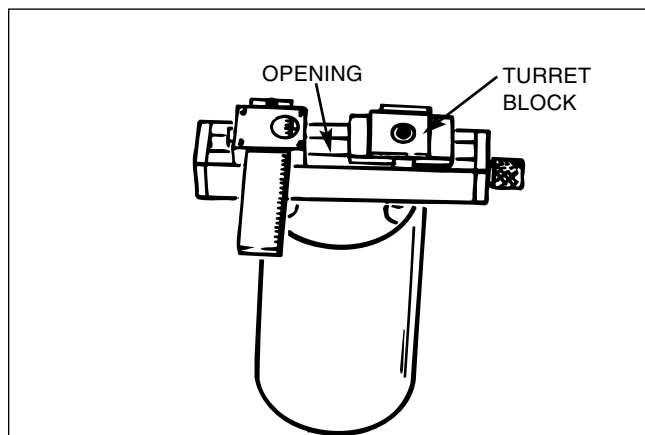

FIGURE 3-10, Setting Gage
7. Place Setting Gage in bore to be honed; then snug, making sure to center (see Figure 3-10).